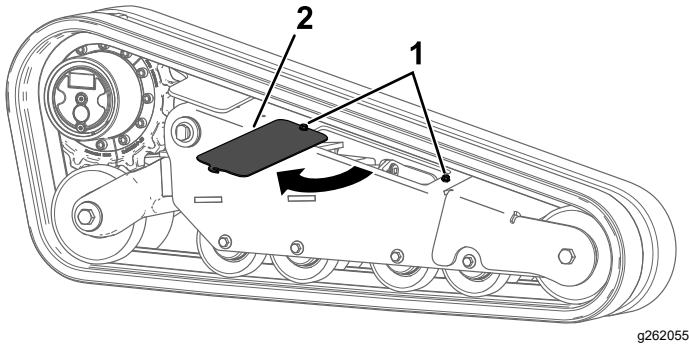

Figure 64
5. Loosen the 2 bolts and rotate the access cover open (Figure 64).
15. Close the access cover and tighten the bolts (Figure 64). Torque the bolts to 41 N·m (30 ft-lb).